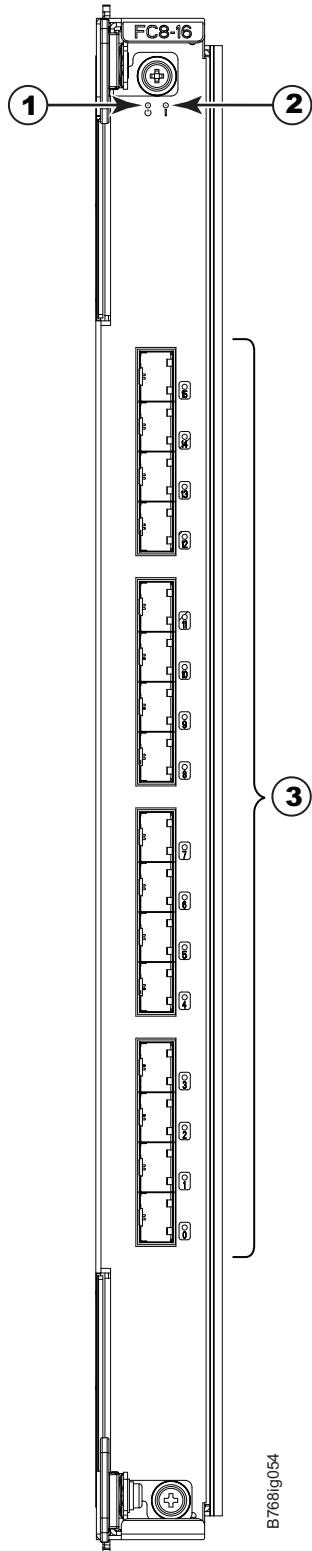

Figure 54. FC8-16 port blade
- Figure 54 on page 166 shows an FC8-16 port blade